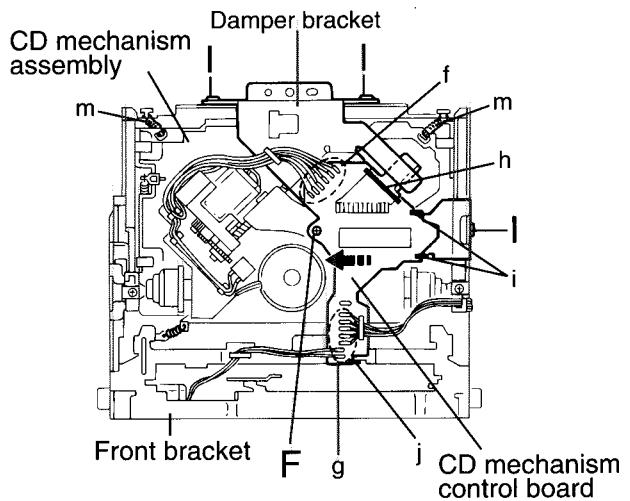

Fig.10
■Removing the CD mechanism control board(See Fig.10 and 11)
■ Removing the CD mechanism ass'y (See Fig.10, 15 to 18)